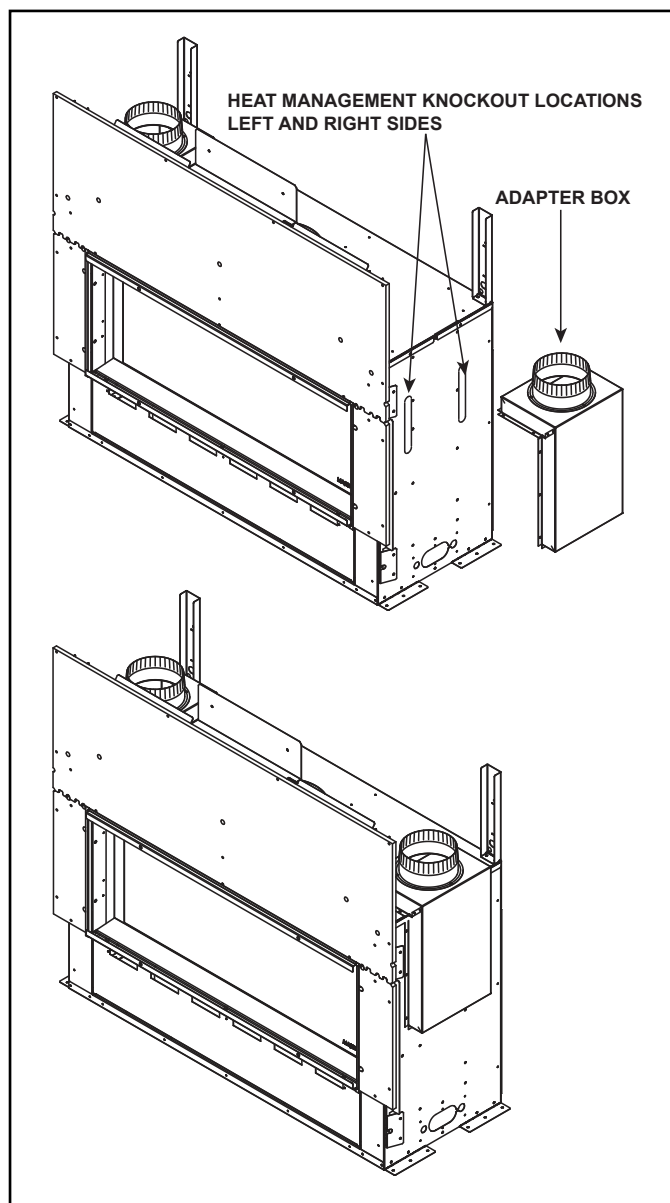

Figure 5.5 Heat Zone Adapter
- Locate the heat management knockouts on the left and right sides of the appliance. See Figure 5.5. Remove the knockouts from the appliance with a tin snips.
- Place the adapter box into position prior to the final positioning of the fireplace as shown in Figure 5.5. Secure using sixteen self-tapping screws. Ensure the heat management knockouts are completely covered by the adapter box.